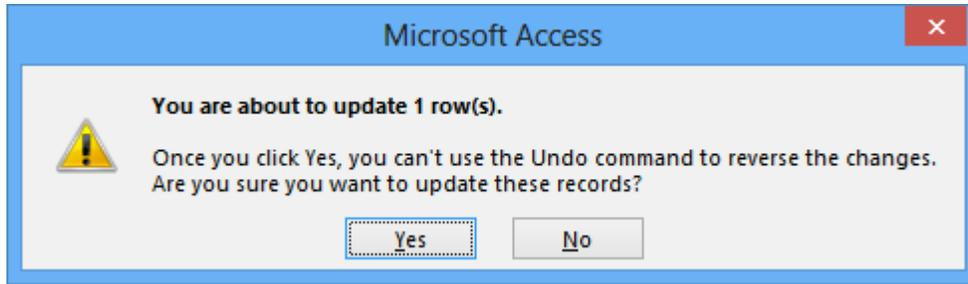

Figure 44: Update Message Box
- Execute the Query: When you try to execute the query, the message in Figure 44 appears. Click the **Yes** button to update the record. Update queries can be repeatedly executed if you desire. If you execute this query two more times, the *UnitsInStock* field is reduced by 2. Close and save the query as “SQL6” when prompted.